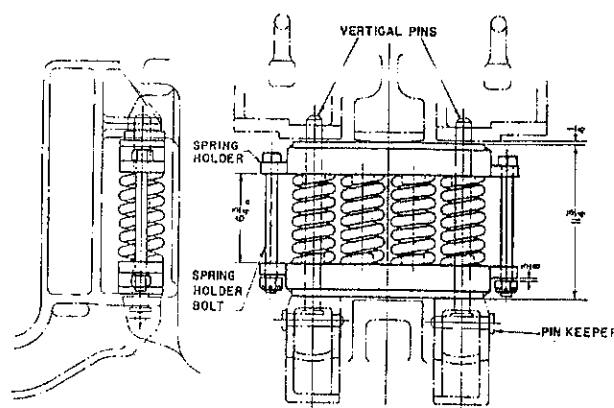

Fig. 4 - TRACTION MOTOR NOSE SUPPORT
8. Remove all motor nose suspension spring nests as follows. See Fig. 4.